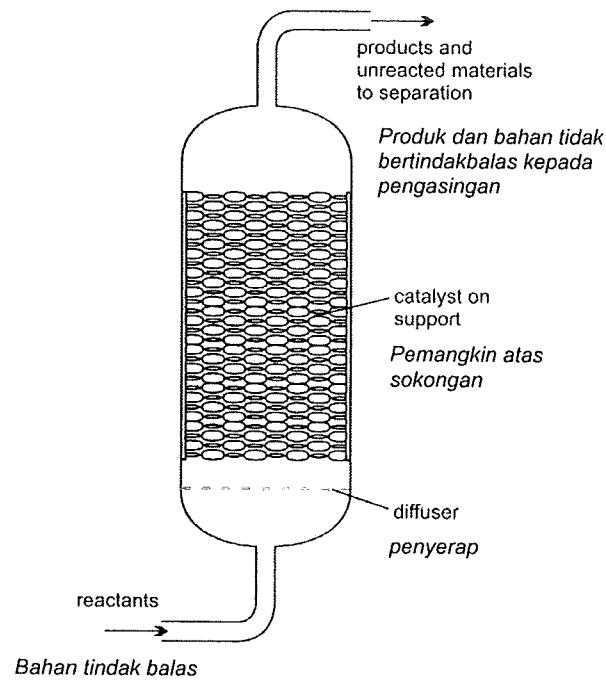

Figure 3
- (c). Define the type of reactor in Figure 3. Briefly describe the mechanism of this type of reactor.